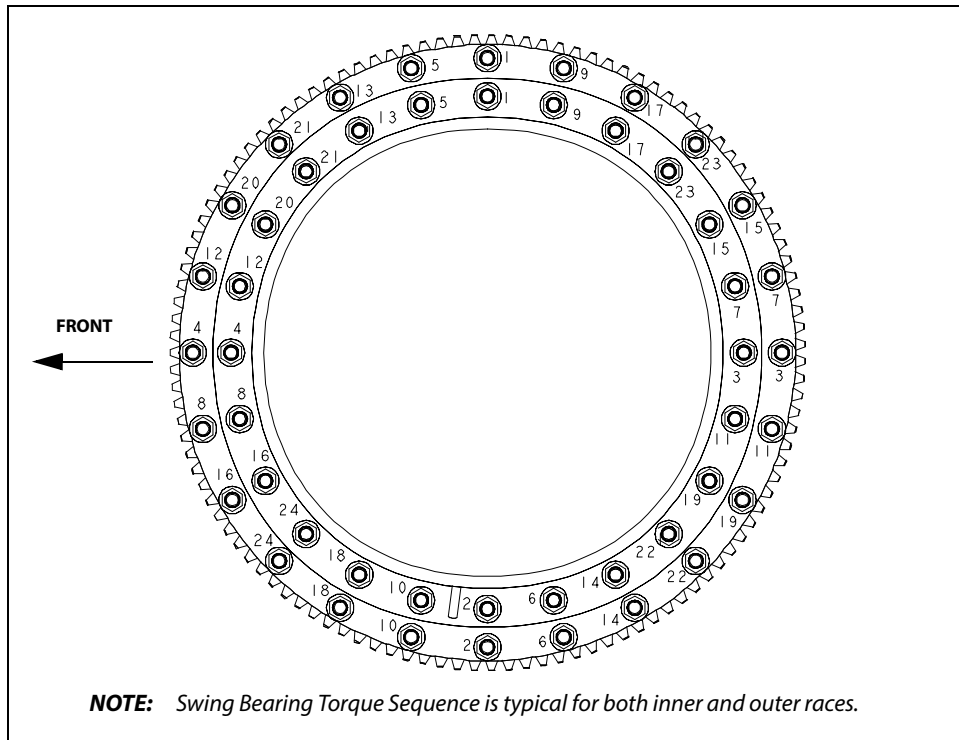

Figure 3-65. Swing Bearing Torque Sequence
3. Refer to the Torque Sequence diagram as shown in Figure 3-65., Swing Bearing Torque Sequence. Clean any residue off the new bearing bolts, then apply a light coating of High Strength Threadlocking Compound and install the bolts and washers through the frame and outer race of the bearing. Tighten the bolts to an initial torque of 190 Ft. lbs. (260 Nm) w/High Strength Threadlocking Compound.
8. Following the Torque Sequence diagram shown in Figure 3-65., Swing Bearing Torque Sequence, tighten the bolts to a torque of 190 ft. lbs. (260 Nm) w/Thread Locking Compound.